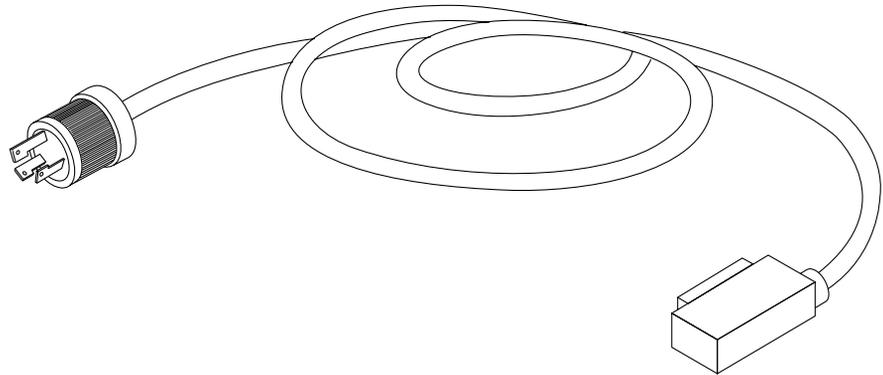
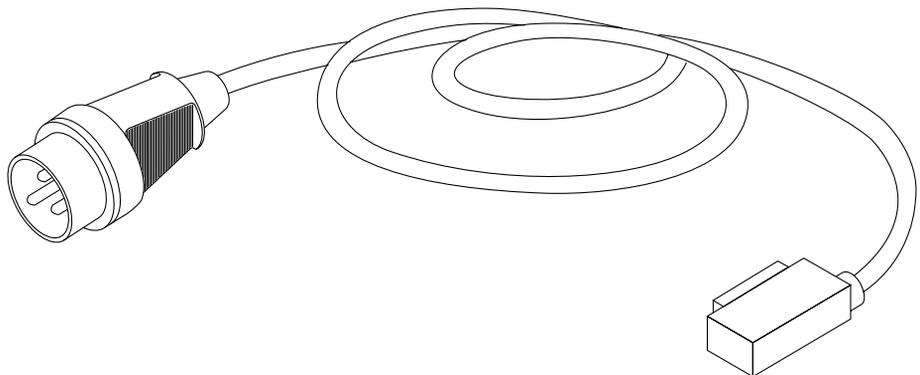

FIGURE 3-11 NEMA L6-30P for 200-240V North American Operation
FIGURE 3-12 IEC 309 Connector for 200-240V International Operation
- 6. Connect the other end of the power cord to a grounded outlet (FIGURE 3-11 and FIGURE 3-12).**